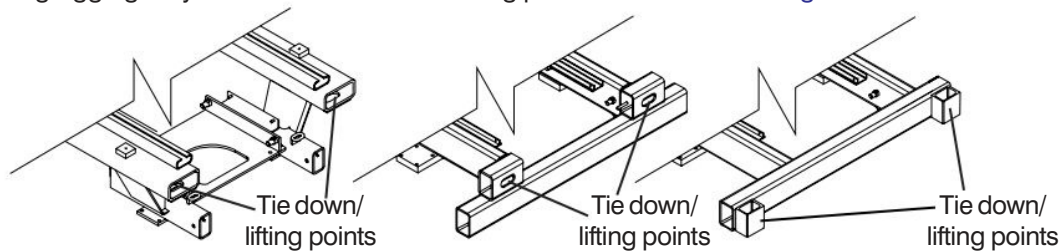

Figure 2-16. Tie Downs/Lifting Points
- The lifting/rigging may be attached to all four lifting points as illustrated in Figure 2-16.
When transporting, the aerial platform must be secured to the truck or trailer deck. Tie downs are available as illustrated in Figure 2-16.